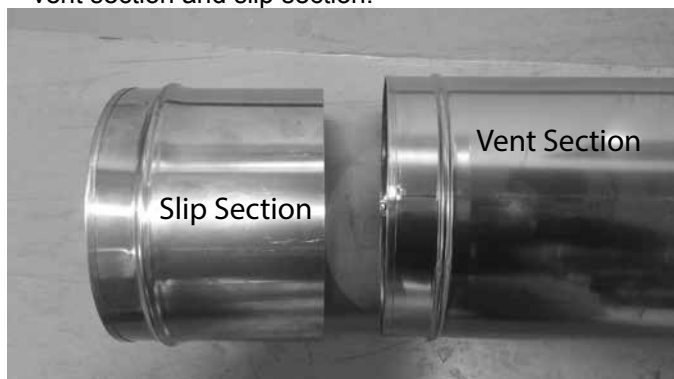

Figure 7.4 Slip Section
- Slide the non-beaded end of slip section inside the male beaded end of SLG pipe section. See Figure 7.4.